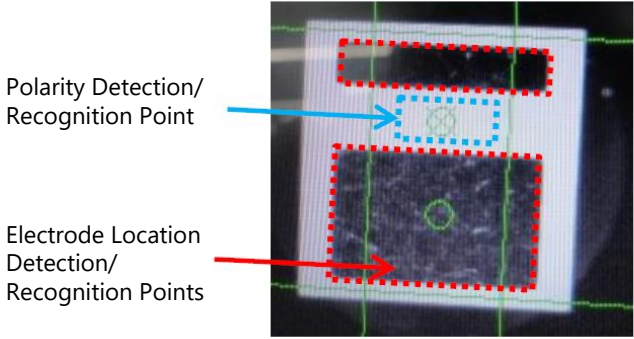

Figure 9. Recommended reference points to detect, recognize, or locate the polarity/electrodes
2. If the imaging device has trouble detecting/recognizing the electrodes due to the uniqueness of the electrode pattern, adjust it to detect/recognize the outer portions of the electrodes (i.e. the areas circled in red in Figure 9 to the left).
3. If an automatic polarity detector is used for the LEDs, set up the imaging device to detect the empty space between the anode and cathode electrodes (i.e. Polarity Detection/Recognition Point in Figure 9 to the left). In the example in Figure 9, the equipment measures the brightness of the empty space against the threshold to locate the electrodes and/or determine the polarity.